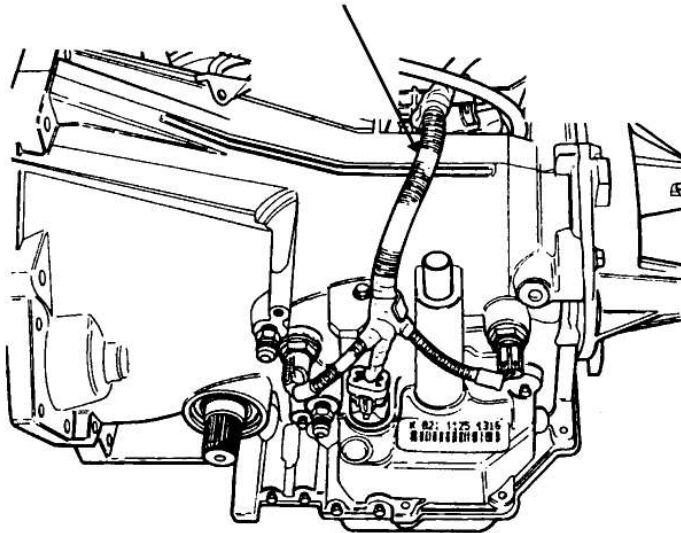

Figure 77
- The 42LE transaxle has both the solenoid body and transmission range sensor mounted on the valve body. Each have their own connector coming through the case both of which are not easily accessible with the unit installed in the vehicle. To perform resistance checks of the solenoids, voltage checks on the pressure switches, resistance or volt checks on the Transmission Range Sensor (TRS) is near impossible at the case connector. The harness plugging into the solenoid body and the Transmission Range Sensor runs up to the top of the case above the bell housing where it plugs into the main vehicle harness (See Figure 77). This short wiring harness from the bell housing down to the solenoid body and TRS will allow for checks to be performed with ease. Figure 78 shows the top two connectors in this short pig tail harness. Each pin in these two connectors are numbered and identified. Should a resistance check need to be made on the solenoid body, rather than unplugging the solenoid body at the case (which could fill up with fluid if the unit is full), locate the 8 pin connector above the bell housing and unplug it. Place the positive meter lead of an ohm meter to pin 7. With the negative lead, touch pins 1, 2, 3 and 8 to obtain all 4 solenoid resistance values (See Figure 79). The chart in Figure 79 also provides checks that can be made through the 12 pin connector on the Turbine Shaft RPM sensor, the Output RPM sensor and the Transmission Fluid Temperature sensor.